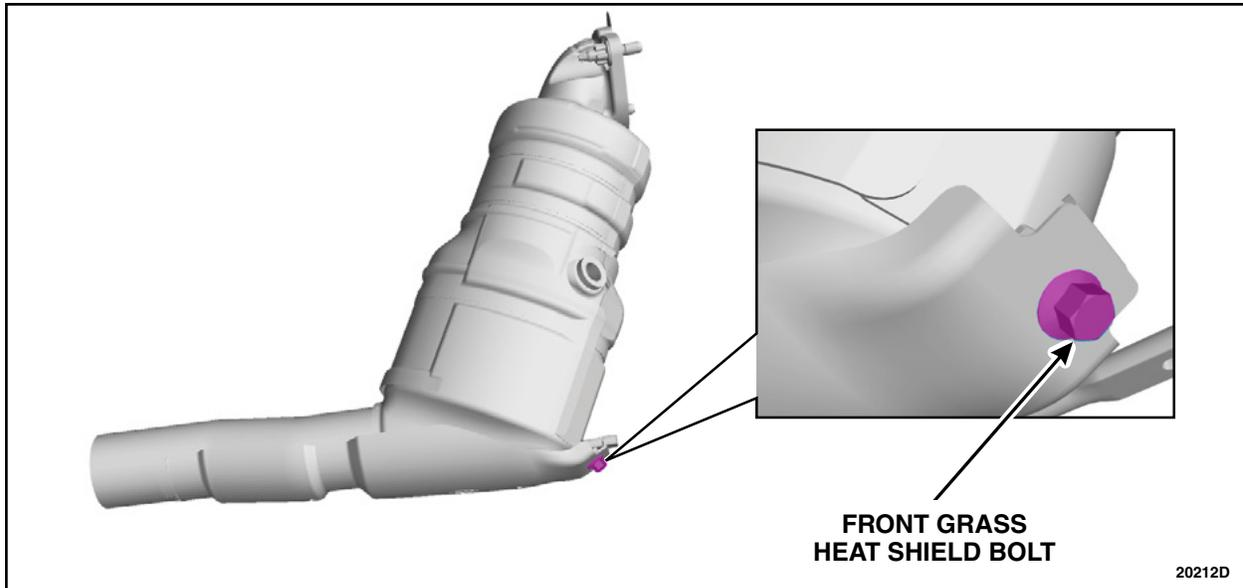

FIGURE 9
5. Remove the front grass heat shield bolt from the RH catalytic converter. See Figure 9.